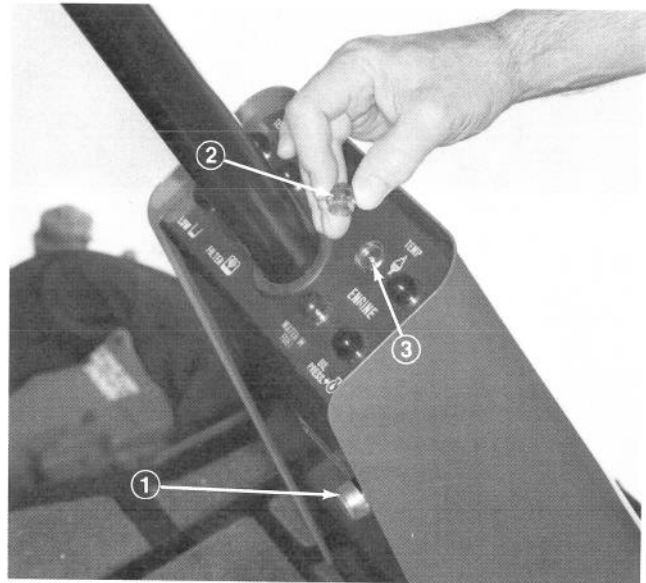

Figure 14
1. Apply parking brake, turn ignition key ON. Push warning indicator light button (Fig. 14). All lights should illuminate and the buzzer sound.
2. If a light is burned out, unscrew appropriate lens (Fig. 14 Inset) and install a new bulb and o-ring.